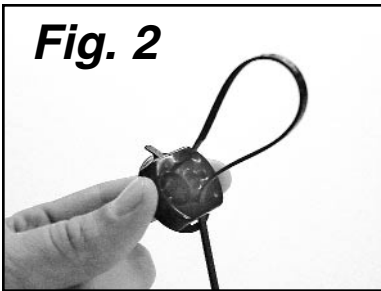

Fig. 2
2. Reinsert the leading edge of the Tie-Wrap into the other hole in the back, and allow it to pass through the hole on the side, as shown in Fig. 2 at left.